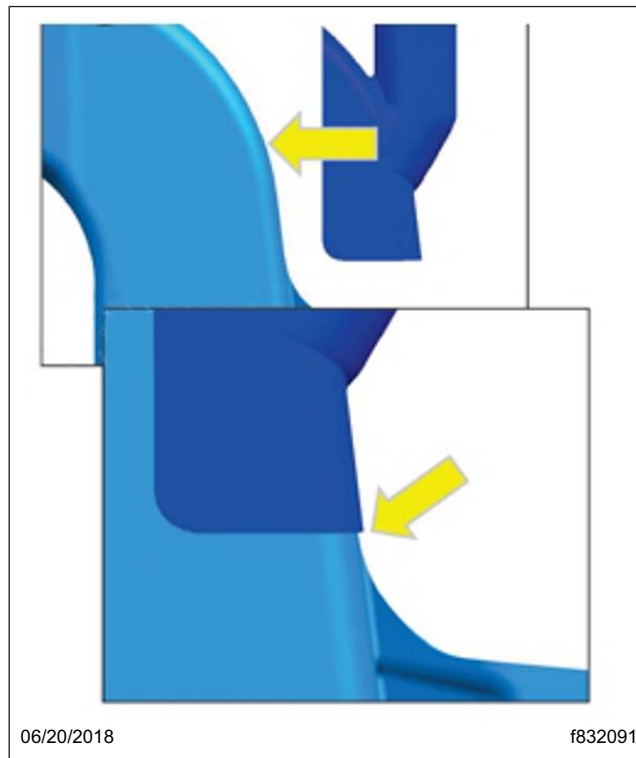

Fig. 3, Aligning the Adapter to the Beginning of the Mounting Tab
3. With the ducting removed, slide on the adapter (22-76285-000) and align the bottom edge to the beginning of the mounting tab. See **Fig. 3** .